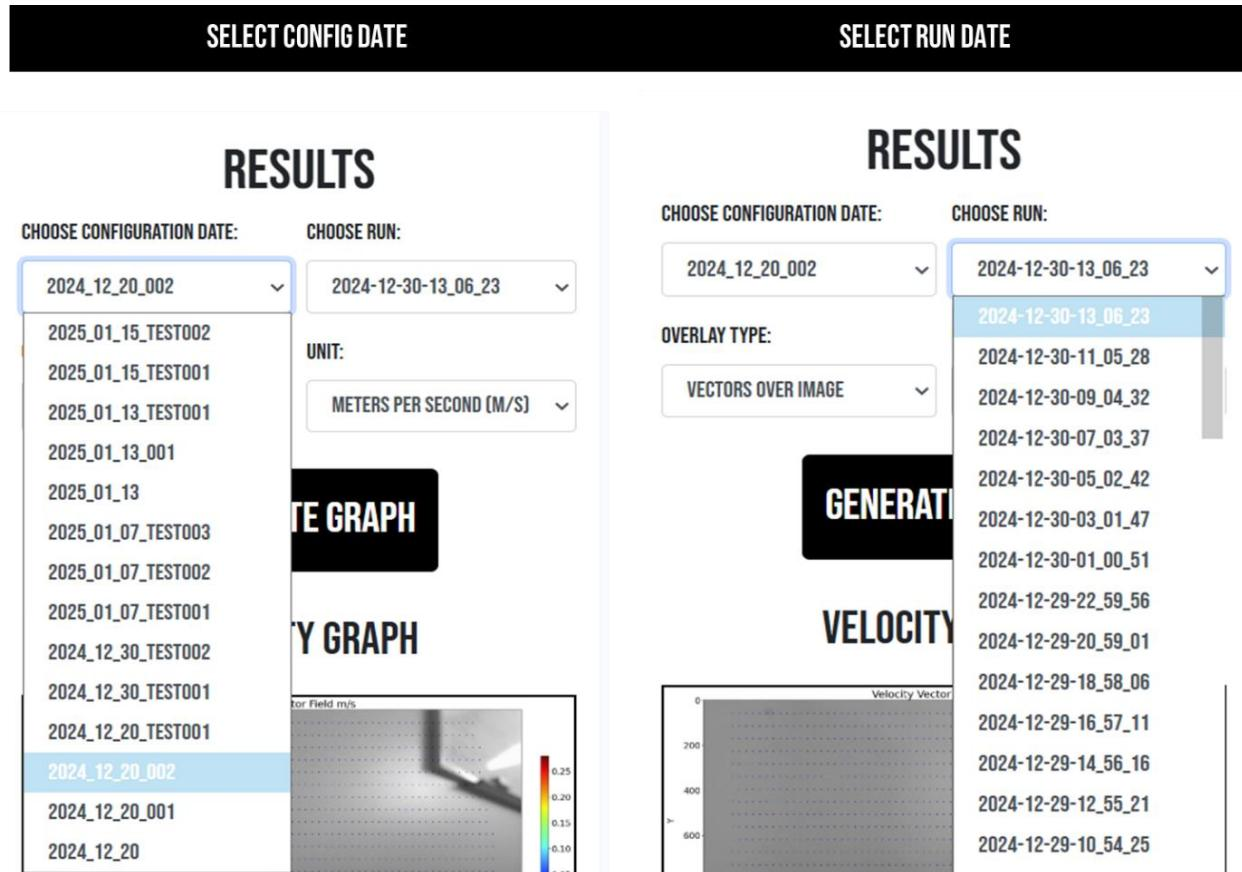

Figure 41. An example of how to select the configuration and PIV run to view its outputs.
- Data are organized by configuration date and run date – see Figure 41.